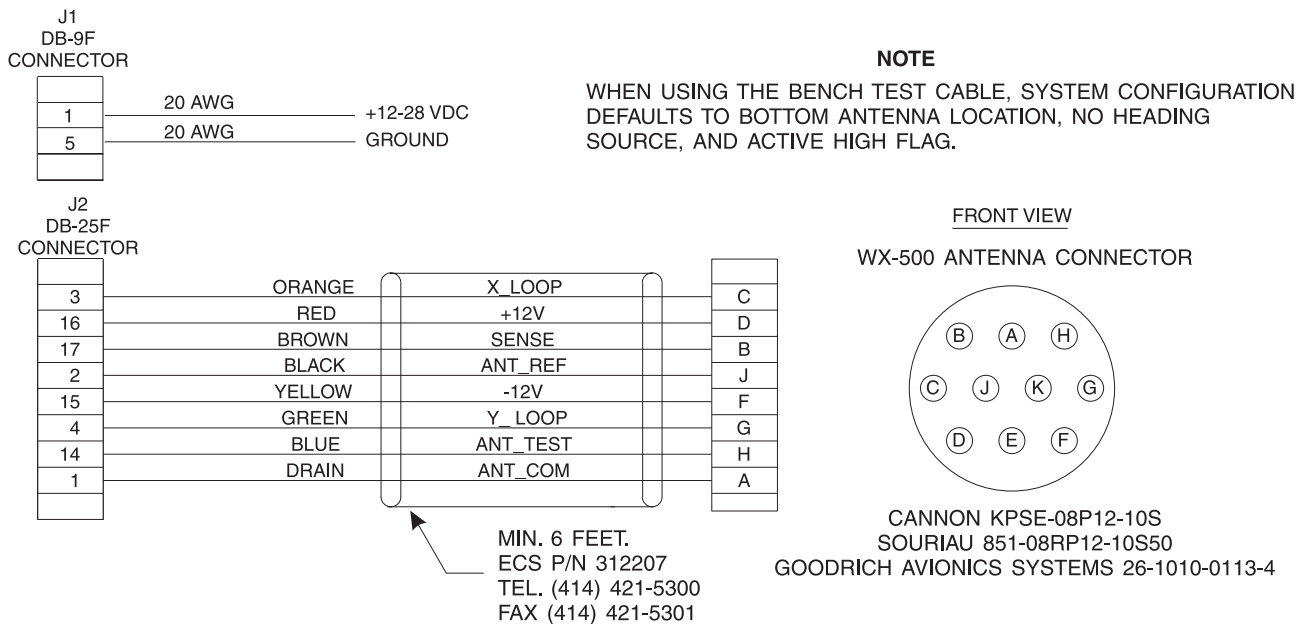

Figure 2-1. Test Cable
WX-500 Test Cable	This cable is required to do the pre-installation test procedure. The cable can be purchased (P/N 803-11501-001) or fabricated from the details provided in figure 2-1.
3. WX-500 Test Cable. The bench test cable may be purchased (P/N 803-11501-001) or one may be fabricated (unterminated cable may be purchased from Electronic Cable Specialists - ECS P/N 312207) from the details provided in figure 2-1.